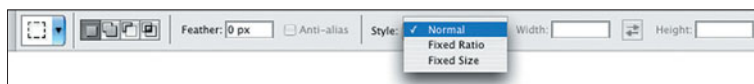

Figure 5.6 In addition to Normal, the Marquee tool can be set to a Fixed Ratio or Fixed Size.
The Marquee tool (M) is most often used for selecting broad swaths of an image when hard edges and abrupt tonal transitions are not a concern. You simply click and drag until the area you want to select is within the marquee's boundaries. You have the option to choose a rectangular or elliptical shape. You can also select a single row or column of pixels. See Figure 5.6 for Marquee tool options.